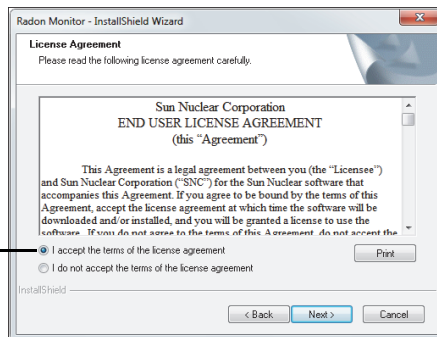

Figure 11. End User License Agreement, Window 7
- 6 The License Agreement screen displays (Figure 11). Read and accept the terms of the license agreement and click **Next**.